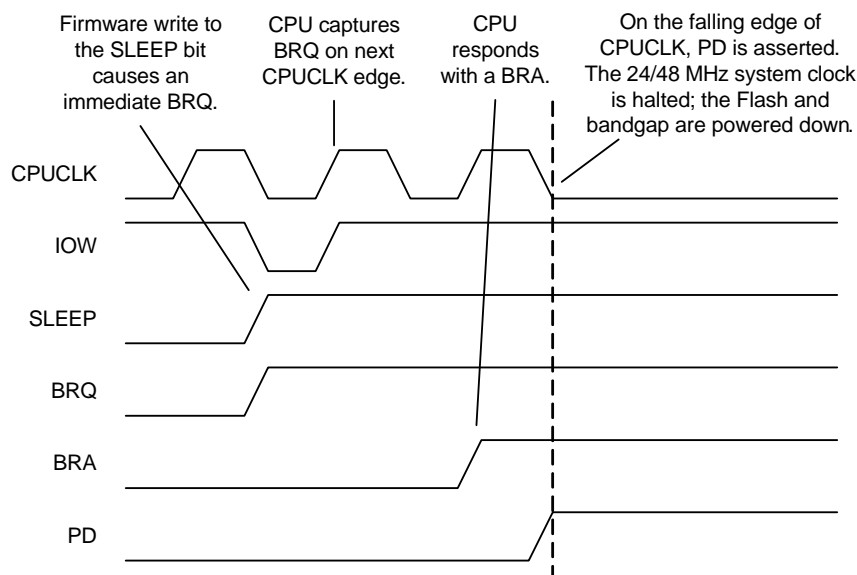

Figure 12-1. Sleep Sequence
The Sleep bit, in the CPU\_SCR0 register, is an input into the sleep logic circuit. This circuit is designed to sequence the device into and out of the hardware sleep state. The hardware sequence to put the device to sleep is shown in Figure 12-1 and is defined as follows.
3. The sleep logic waits for the following **negative edge** of the CPU clock and then asserts a system-wide Power Down (PD) signal. In Figure 12-1, the CPU is halted and the system-wide power down signal is asserted.